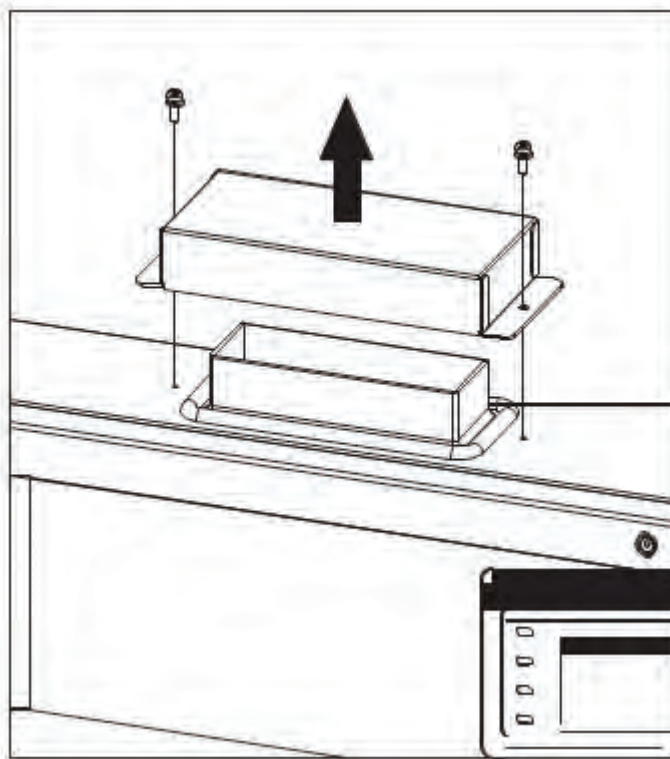
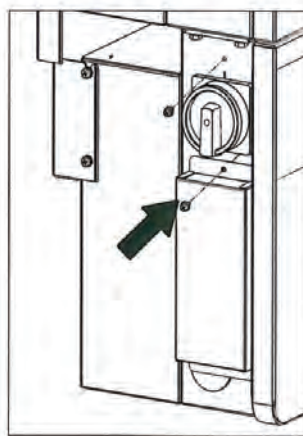

Figure 3-10 Cover board of the wiring box
Figure 3-13
- ② Remove the cover board at the top of the wiring box (see Figure 3-10)
Save the cover board and screws, and fix the board on the left side of the wiring box after the wiring box is attached to the inverter housing (see step 6, Figure 3-13)
(6) Attach the cover board shown in Figure 3-10 to the left side of the wiring box. (see Figure 3-13)